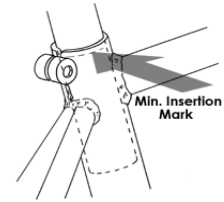
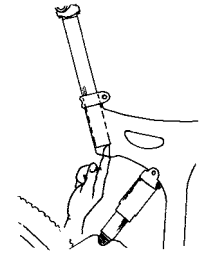

fig. 4
fig. 5
Once the saddle is at the correct height, make sure that the seatpost does not project from the frame beyond its “Minimum Insertion” or “Maximum Extension” mark (fig. 4).
If your bike has an interrupted seat tube, as is the case on some bikes with rear suspension, you must also make sure that the seat post is far enough into the frame so that you can touch it through the bottom of the interrupted seat tube with the tip of your finger without inserting your finger beyond its first knuckle (see fig. 5).
**⚠ WARNING:** If your seat post projects from the frame beyond the **Minimum Insertion** or **Maximum Extension** mark (see fig. 4) or you cannot touch the bottom of the seat post through the bottom of the interrupted seat tube with the tip of your finger without inserting your finger beyond its first knuckle (see fig. 5), the seat post may break, which could cause you to lose control and fall.